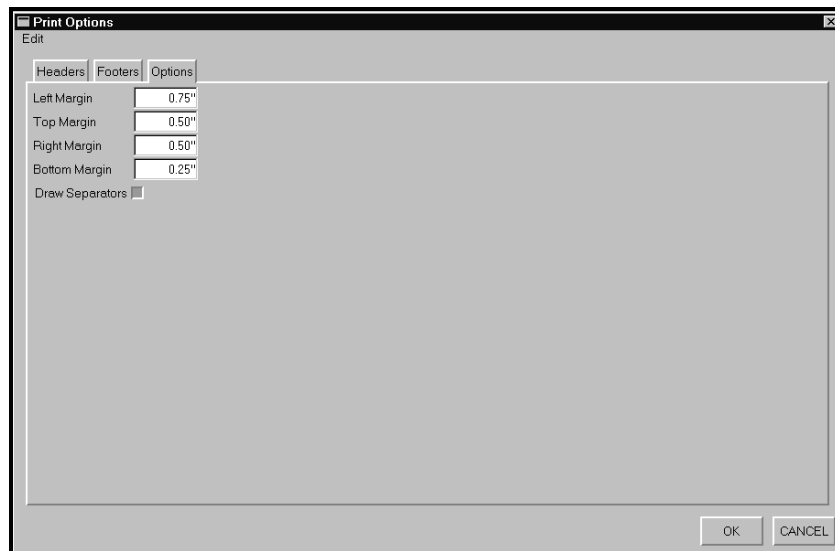

Figure 3-113. Print Options > Options tab
There are five (5) fields in the Options Tab, Figure 3-113. The page margins are controlled by the corresponding field. For example, Left Margin controls the margin on the left side of the page, Top Margin the margin on top of the page, etc.